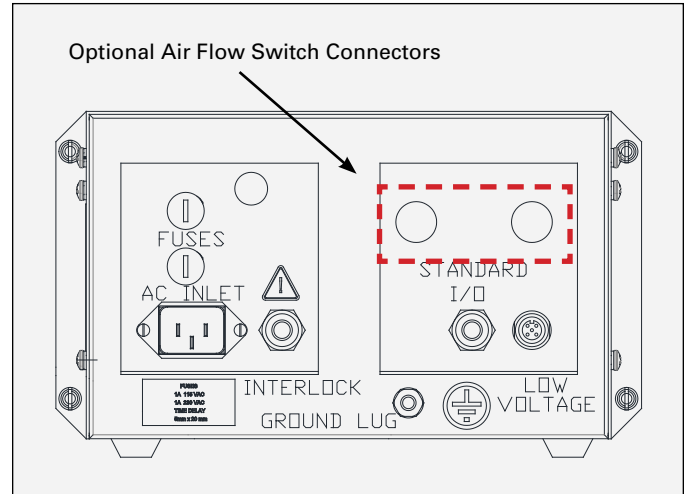

Figure 4: 9060 Connection Interface
The 9060 Controller connection interface shown in Figure 4, provides all of the required connections for setting up either a remote I/O controlled painting system or a local controlled painting system. This connection interface consists of one (1) low voltage cable connector, one (1)